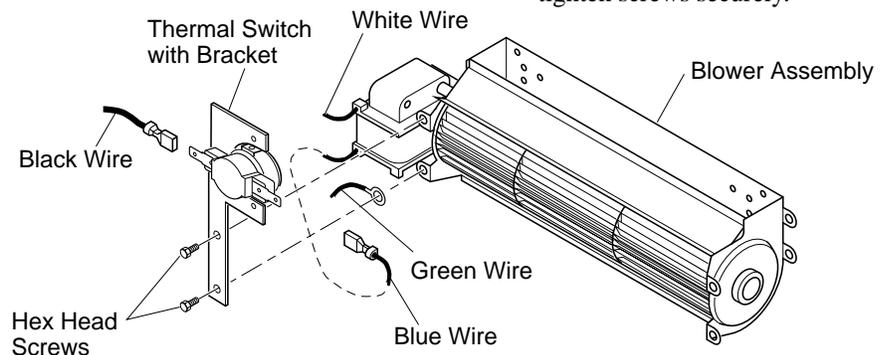

Figure 29 - Attaching Thermal Switch to CDA3620T Thermostatically-Controlled Blower Accessory
1. Remove the two hex head screws on the blower assembly as shown in Figure 29.